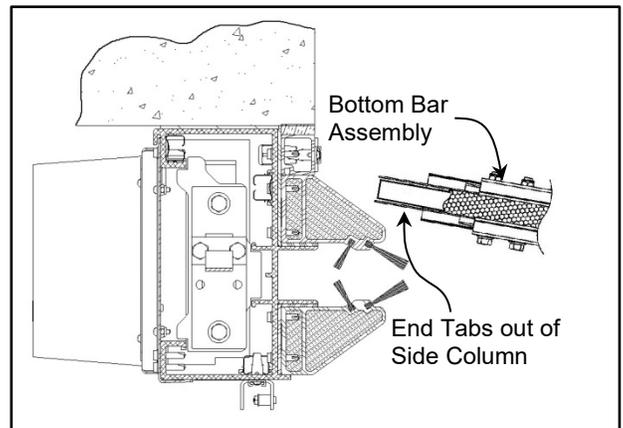
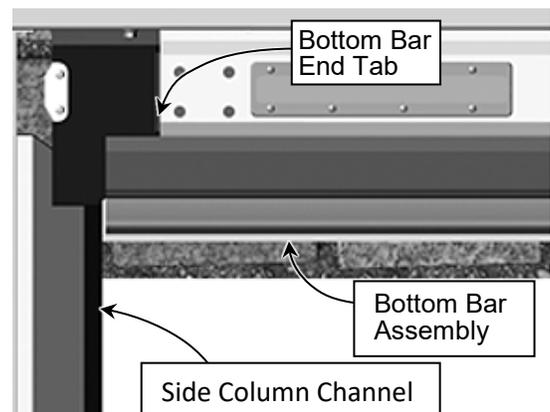

Figure 32
Figure 33
1. The foam breakaway tabs have popped out of the side column's channel due to impact. (See Figure 32 and Figure 33)